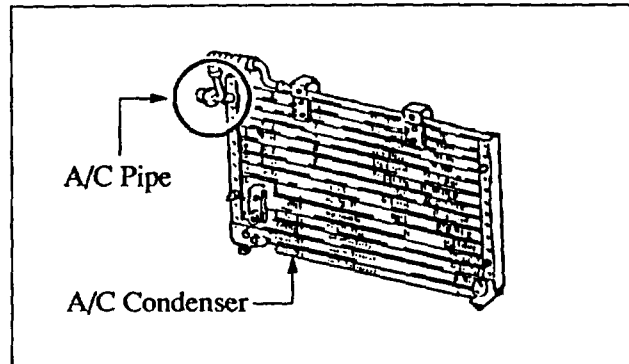

Figure 1: Check A/C Pipe at Area Shown
5. If necessary, move the A/C pipe away from the radiator. **Figure 1.**